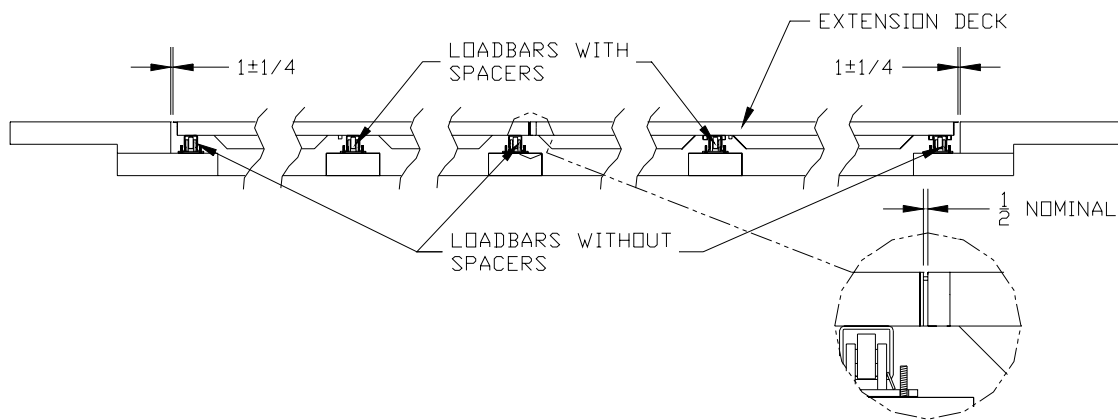

Figure 13 - 5 Loadbar Installation
1. Position the standard deck. Position the deck square to the foundation and with a gap between the deck and the foundation wall of approximately 1" (see Figure 13).